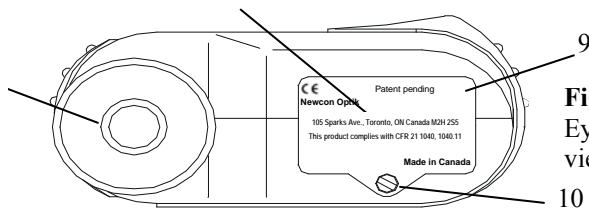

Fig. 2.
- Unscrew the screw (10) and open the battery compartment cover (9) (Fig. 2).
- Hook the farther from the screw edge of the battery compartment cover (9) over the edge of the battery compartment, close the cover and tighten the screw (10).
- Unscrew the screw (10) and open the battery compartment cover (9) (Fig. 2)